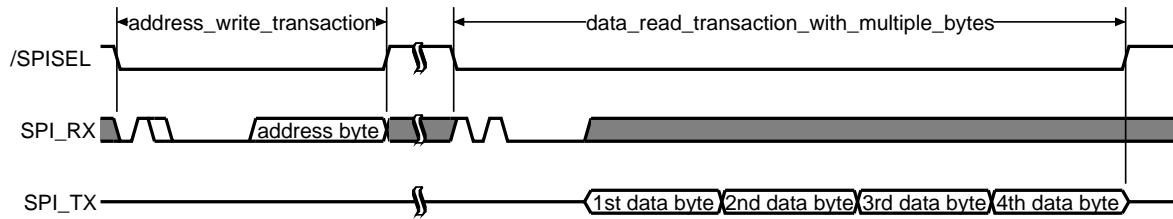

Figure 2.19: Register read access with a 40 bit transaction
3. Another way of reading multiple bytes from the same register is available with the 40 bit read transaction (Figure 2.19). With the first transaction (16 bits) the SPI master specifies the register address (control byte is '01X0 CCCC'). Afterwards, four register values are transferred from XHFC-2SU to the SPI master (control byte is '1010 0000').